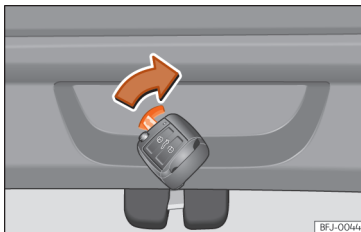

Fig. 79 Luggage compartment: manual release.
- Insert the key blade into the slot and move the key in the direction of the arrow until the lock unlocks >>> **Fig. 79**.